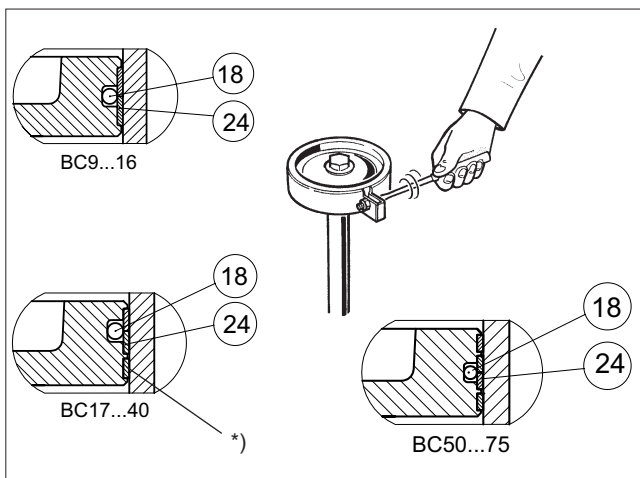

Fig. 10 Tightening piston seals with a tie ring
- Place the O-ring (18) under the piston seals.
- Locate the seals (24) around the piston so that the ends of the strips come on opposite sides. Tighten the strips with the tie ring as shown in Figure 10. The strips marked with an asterisk (*) may be cut 1.5-3 mm shorter to facilitate assembly.